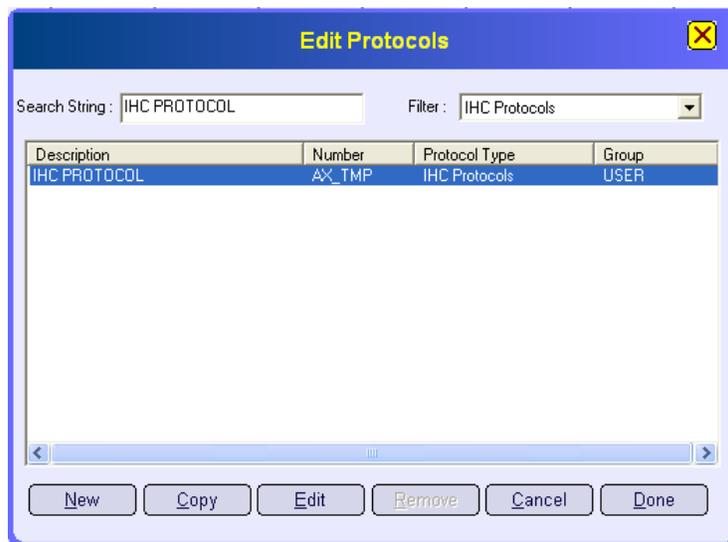

Fig 39: Edit Protocol Window
1. From the <Edit Protocol > window (Figure 39), click the <New> button to open the <New Protocol Editor> window (Figure 40).